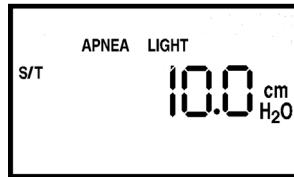

Figure 6-5 Monitoring Screen
2. Press the **Pressure On/Off** button to put the unit into the Operate state. The Monitoring screen, shown in Figure 6-5, appears.